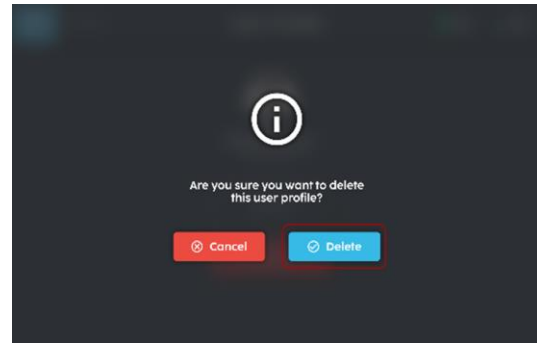

FIGURE 3-29
3. Select 'Delete' (Fig 3-29).